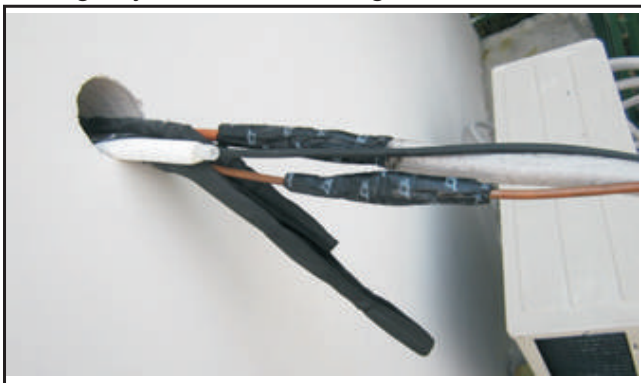

Fig.4.12
8. Wrap up the quick connectors with the sound deadening pads, pack down the pads solid as tightly as shown in Fig.4.12.